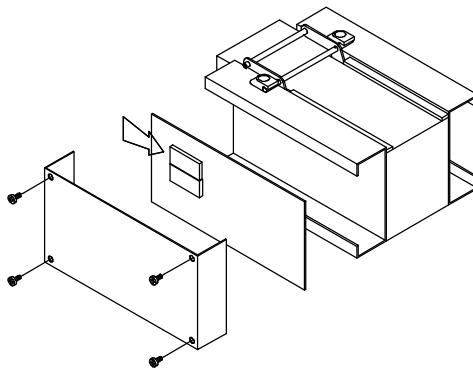

Figure 1
3. Remove the side cover by removing the 4 Phillips screws as shown in Figure 1. (Do Not Remove Board from Chassis).
4. Remove the Program Chip in your Note Acceptor by gently prying it out with a small straight edge screwdriver. The location of this chip is pointed out by the arrow in Figure 1. (This chip is static sensitive and needs to be handled with care).
NOTE: SYSTEM 600 NOTE ACCEPTORS WITH SOFTWARE VERSION 2.07 OR EARLIER MAY REQUIRE FACTORY CALIBRATION. THE SOFTWARE VERSION IS MARKED ON THE PROGRAM CHIP. (REFER TO FIGURE 1)